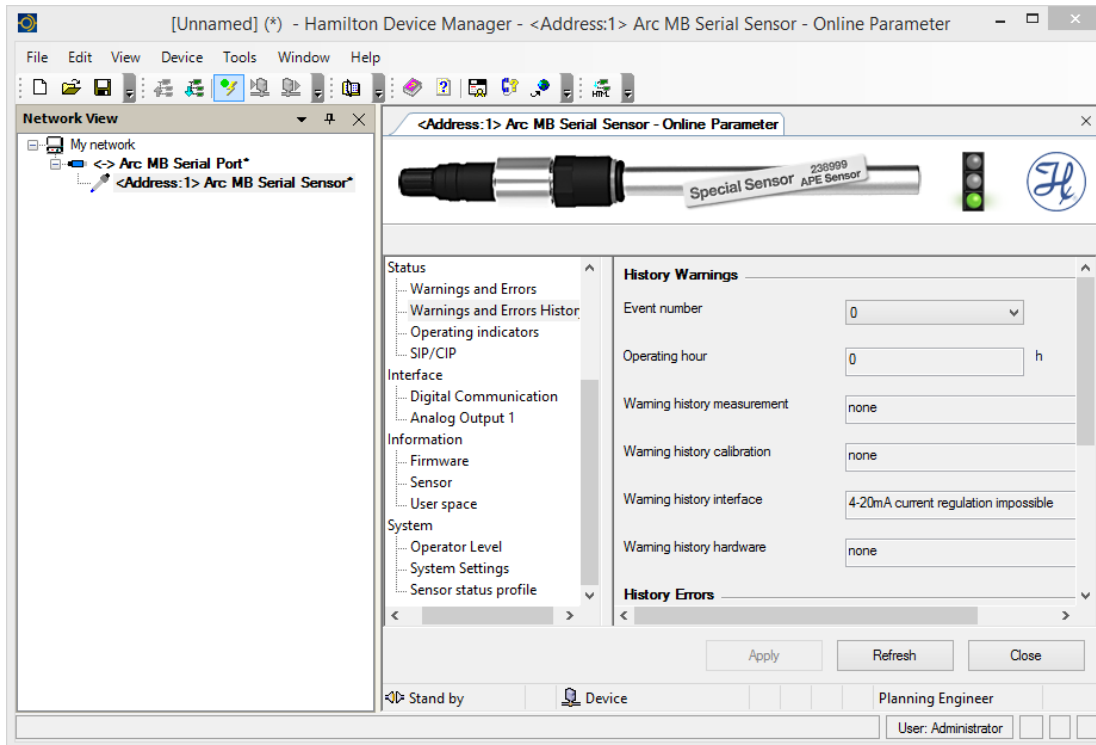

Figure 5-9 - HDM window showing the AM-LDO sensor. The sensor and the port are both live as indicated by the bold font in the list view on the left.
9. Double click on the **<Address 1> Arc MB Serial Sensor** and you will see the window shown in Figure 5-9.
Note the traffic light in the upper right corner in Figure 5-9. The green light means everything is okay. A yellow light means that a **sensor warning** has been activated and a red light means that a **sensor error** has been activated.